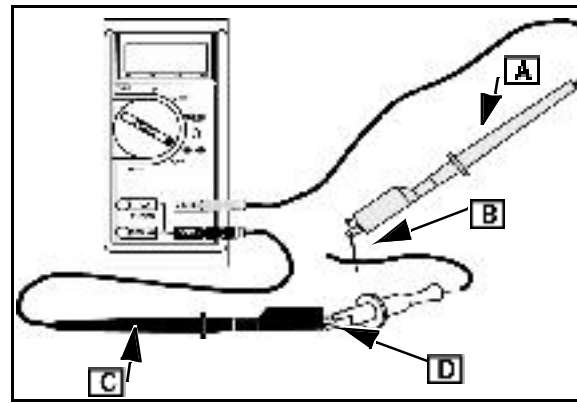

Fig. 15
2. Attach RED test lead ([A] Fig. 15) clip to point (B) and BLACK test lead (C) clip to point (D) Fig. 15). It may be necessary to pierce wire with a pin as shown.